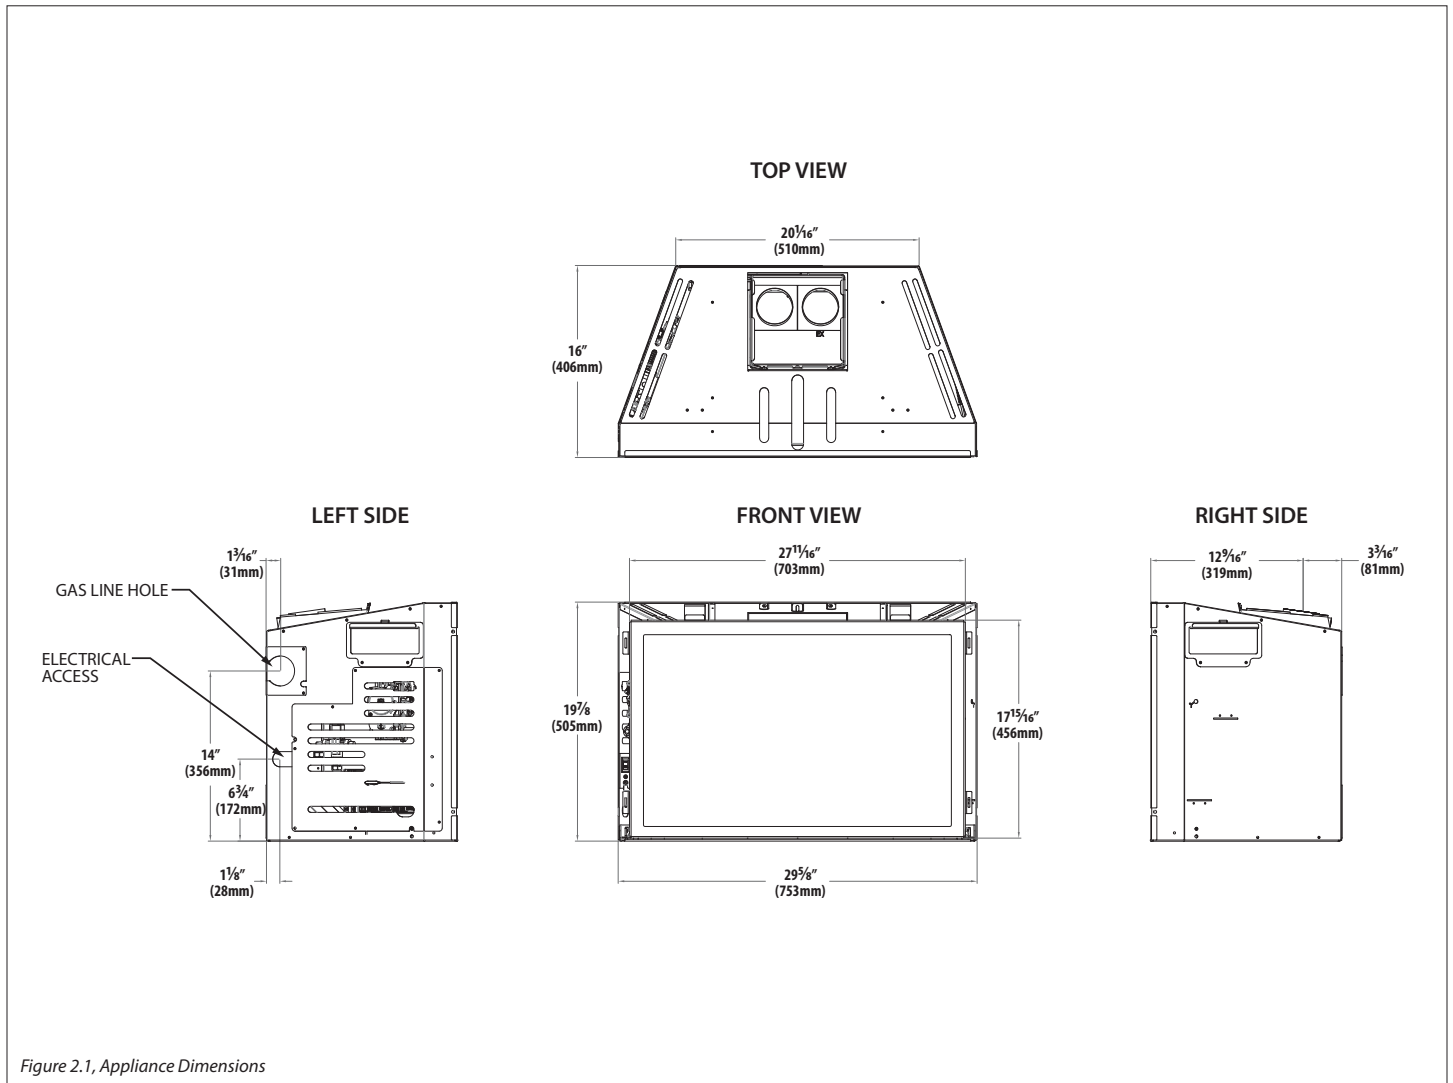

Figure 2.1, Appliance Dimensions
- A gas line must be able to be installed to the fireplace insert. Please refer to Figure 2.1 on page 9. The gas line access hole is located on the left side of the insert.